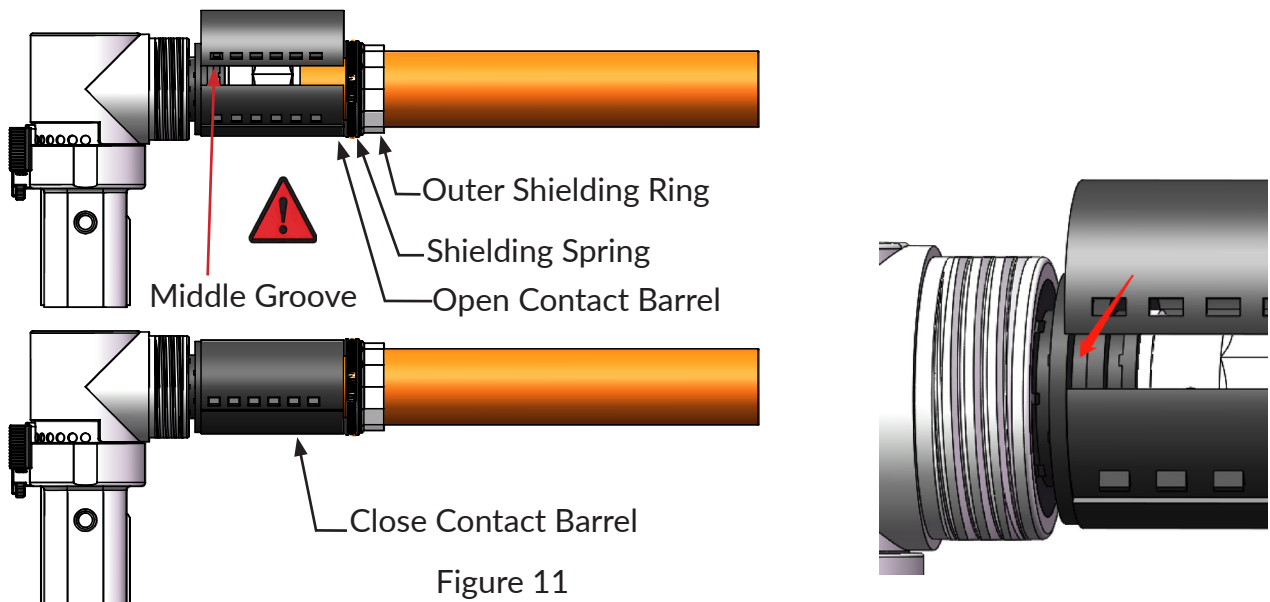

Figure 11
1) As figure 11 shown, assemble the contact barrel into middle groove of the elbow insert, can't be assembled to other groove, otherwise withstanding voltage of the connector will be affected;